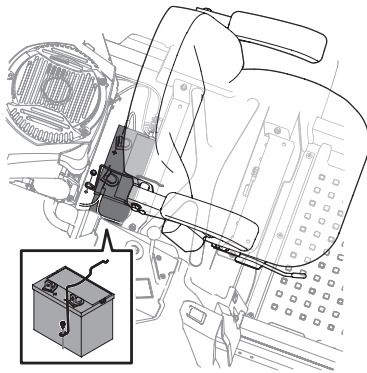

Figure 23
- Remove the hex washer screw securing the battery hold-down bracket to the frame. Then flip the battery hold-down bracket up to free the battery. See Figure 23.